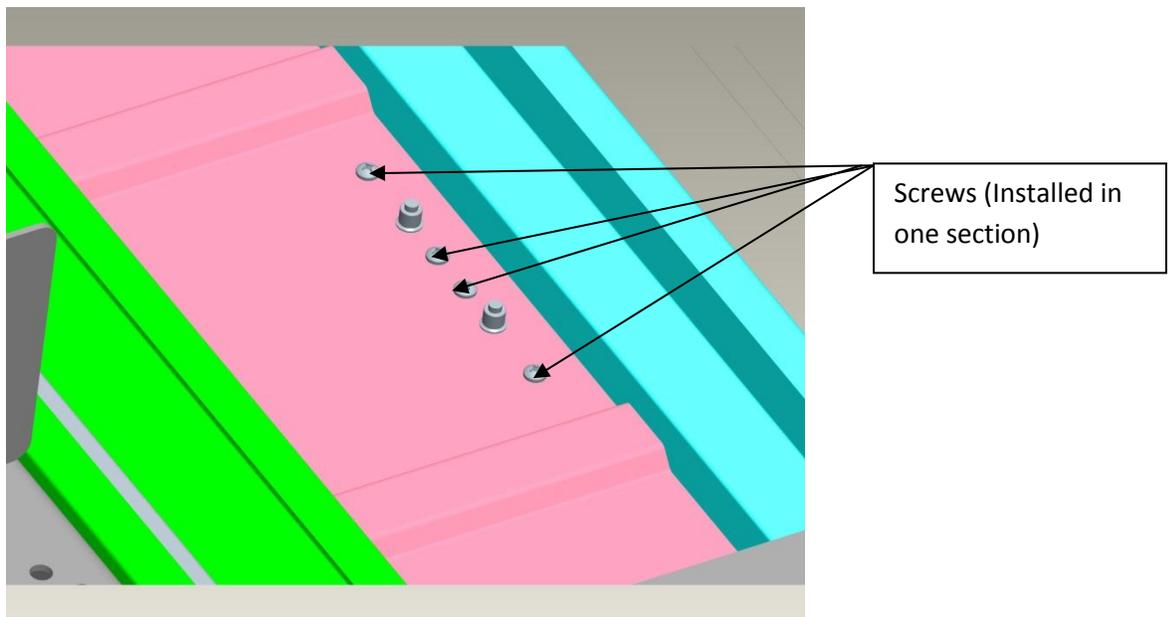

Figure 5
5. Once you have found a sheet that is galvanized then you will need to repair each end (the ends at the left and right side of the bus). This requires adding extra fasteners between the existing fasteners. For the locations that are at the ends of the floor, sheet rivets will be used (TBB69005005 3/16" pop rivet). Between the screws that are coming down from inside the bus there will be 2 rivets installed. Drill two .191 diameter holes equal distance between the existing screws as shown in between existing side lining attachments. Drill these holes 1 1/8" distance from each other. There are only 2 screws shown but this is to be done between each set of screws all the way across the floor sheet on both ends (see Figure 3). Make sure that the fastener tightens all the way up against the metal. This may require removing more undercoating (see figure 3). Also, in hard to reach places where a pop rivet gun will not reach, screws can be substituted such as shown in Figure 5. If you are unable to distinguish between galvanized and galvanneal then proceed with the procedure for all sheets.
- 7 If the sheet that you have to repair is the last sheet in the bus (the one that butts up to the emergency door) it will require this to be done on three sides. The two ends will just be a repeat of the above steps. The edge facing the rear of the bus will use screws (TBB P/N 69003248 #12 screws) at each pin and collar configuration. Scrape away any undercoating so that holes can be drilled and the fastener will mount metal to metal. Drill four 5/32" holes in line with the pin and collar fasteners as shown in Figure 5. This will be done at each location the pin and collar fasteners are along the back of the bus. Two of the screws will be installed between the two pin and collar fasteners at 1.15" from each screw. Then one on each side of the row for a total of 4 screws.